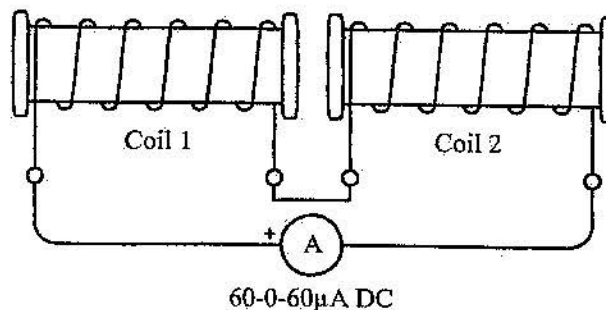

Figure 3
14. Connect the two coils in series as shown in figure 3. (This will double the number of turns cut by the magnetic field).